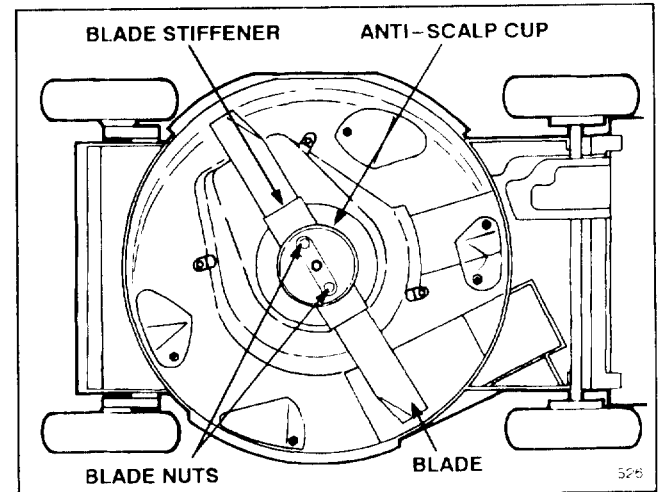

Figure 25
3. Tip mower on its right side (Fig 25).
5. REMOVING BLADE—Grasp end of blade using a rag or thickly padded glove. Remove blade nuts, anti-scalp cup, blade stiffener, and blade (Fig. 25).